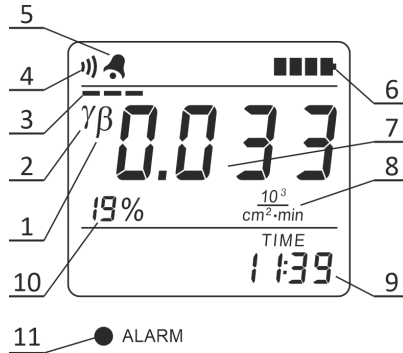

Figure 2.9 – LCD of the radiometer
2.3.3.7.8 When measuring characteristics of beta radiation intensity, the LCD of the radiometer displays the following information (Figure 2.9):
- the estimated limit of statistical deviations (10) of the measurement result (7);
- “ $\beta$ ” symbol (1) - an indication of the measured radiation type;
- “ $\gamma$ ” symbol (2) - is displayed if measurement takes place without subtraction of gamma radiation component;
- instantaneous value indicator (3);
- sound symbol (4) (if sound signaling of detected gamma quanta and beta particles is switched on);
- alarm clock symbol (5) (if the alarm clock is on);
- battery status symbol (6);
- measurement result (7);
- dimension of measurement result (8)  $10^3/(\text{cm}^2 \cdot \text{min})$ , cps or faded away, if the dimension is  $\text{Bq}/\text{cm}^2$ ;
- current time (9).
If surface activity measurement is carried out in  $\text{Bq}/\text{cm}^2$ , then “Act” characters are periodically displayed on the LCD of the radiometer and the dimension of the measurement result goes blank (8) (Figure 2.9).